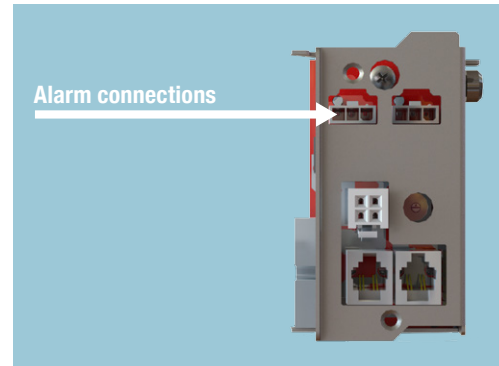

Figure 6 LPS36 Alarm Relay Connections
Alarm Connections: Alarm and status indicators are provided on the controller and on each Quad Up-converter Module. The alarms are also reported via SNMP and the controller for access locally or remotely. For hardwired alarms, each LPS36 shelf is equipped with two sets of Form C relay contacts – one for Major alarms and one for Minor alarms. The alarms can be wired for Normally Open (NO) or Normally Closed (NC) configuration. The relays can be connected to the local alarm-sending unit using wire gauges from #28 AWG to #16 AWG. In addition, outputs from the alarm relays can be ganged to produce one alarm at the alarm-sending unit. The relay connections are provided on the left side of the shelf as shown in Figure 6.